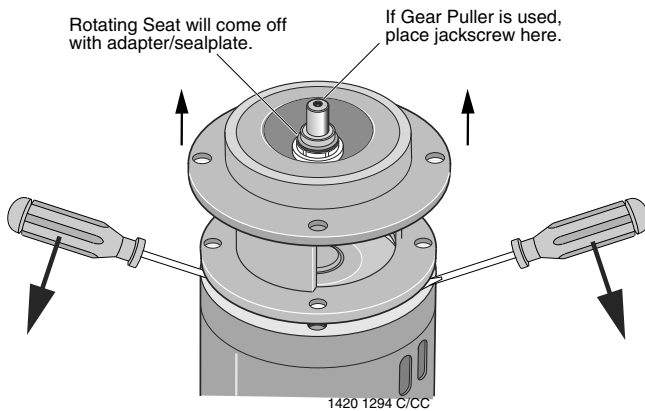

Figure 3
7. Use two screwdrivers (Figure 3) or bearing puller to carefully separate motor from adapter/seal plate, bringing rotating half of seal off with adapter/seal plate. Shaft sleeve (Key No. 10) may come off with seal.